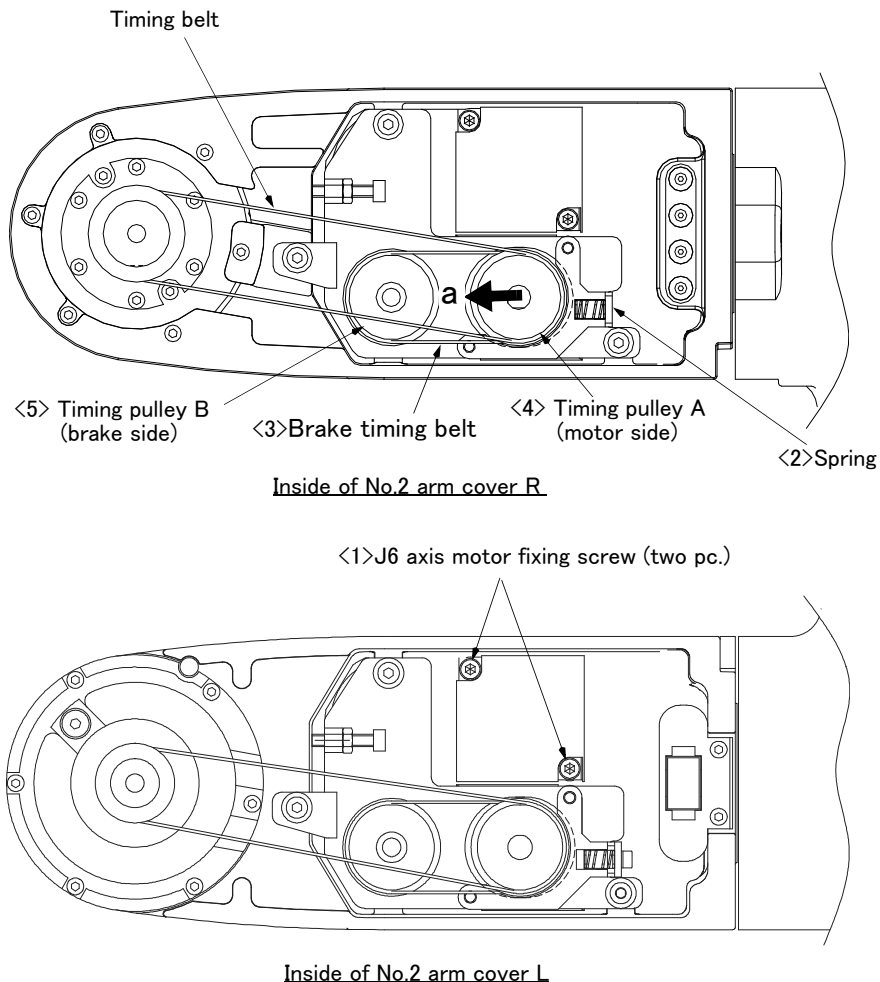

Fig.5-17 : Inspection and replacement of J6 axis brake timing belt (RV-2FRB/2FRLB)
The reference figure at inspection and replacement of the brake timing belt is shown in Fig. 5-17. To replace the J6 axis brake timing belt, remove the J6 axis timing belt. Measure the tension before removing the J6 axis timing belt, and reinstall the belt so that the tension must be the same as the one measured before removal.
- 4) Move motor side timing belt pulley <4> in the direction of the arrow "a" of Fig. 5-17, and remove the brake timing belt.
(9) RV-4FR/7FR series: Inspection and replacement of J1-axis timing belt